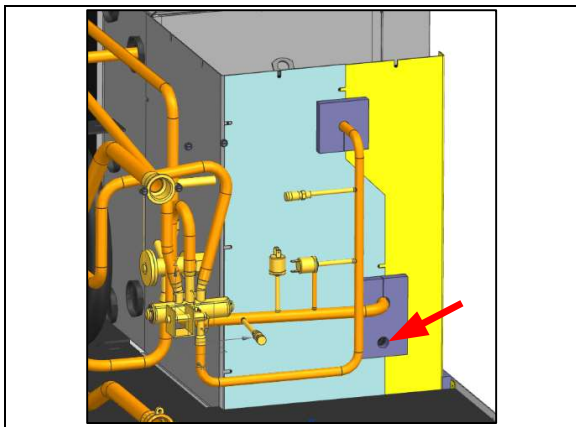

Figure 17. Opening for electrical wires QV/WQ 36,42 HZ RH configuration only.
- a. Re-assemble encapsulation panels removed on steps 1-4 maintaining a clearance of 1/8" between encapsulation and pipes. For QV/WQ 36,42 HZ RH when attaching panels "A" and "B" route compressor power plug through encapsulation electrical wires opening (see figure 17) between the two panels.